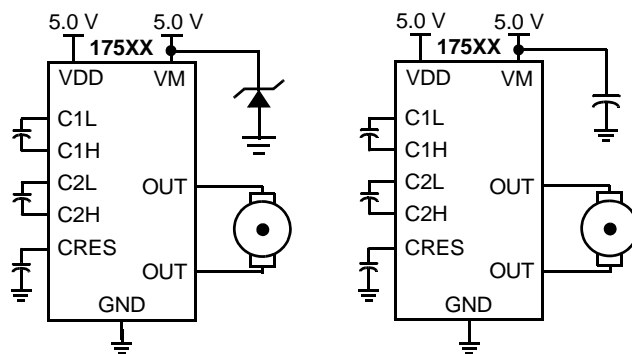

Figure 8. CEMF Snubbing Techniques
Care must be taken to protect the IC from potentially damaging CEMF spikes induced when commutating currents in inductive loads. Typical practice is to provide snubbing of voltage transients by placing a capacitor or zener at the supply pin (VM) (see Figure 8).